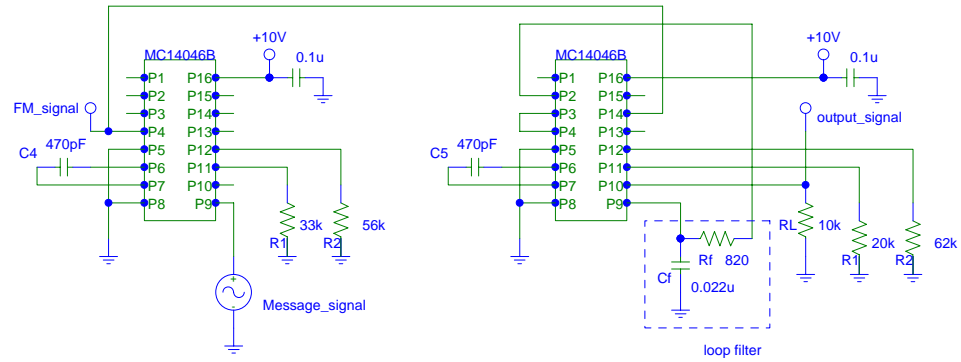

Fig. 4 FM Modulator and Demodulator.
9. Once the conditions above are met, cascade both circuits, add the loop filter and make the necessary modifications as shown in Fig. 4.